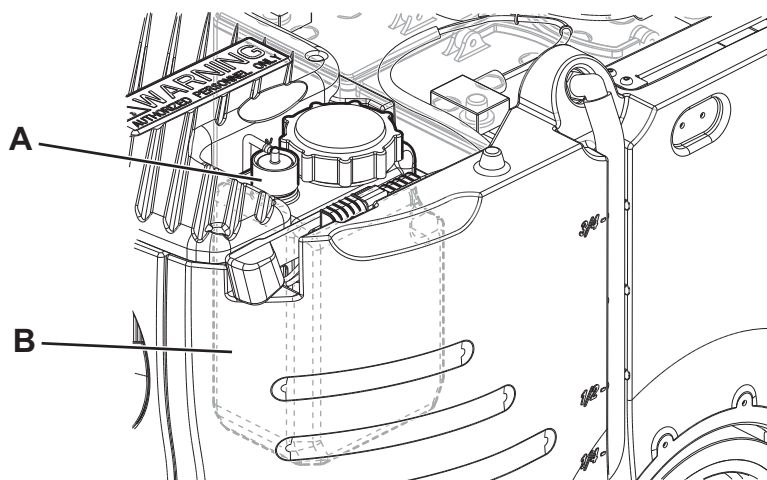

Figure 14
2. Ensure that the machine is off and the user key (52) has been removed.
3. Lift the cover (29) and check that the recovery tank (17) is empty; if not, empty it using the drain hose (26).
4. Close the cover (18).
5. Grasp the handle (35) and carefully lift the recovery tank assembly (17).
6. Unscrew the cap (A, Fig. 14) from the detergent tank (B).
9. Replace the detergent tank (B) as shown in the figure, then refit the plug (A).